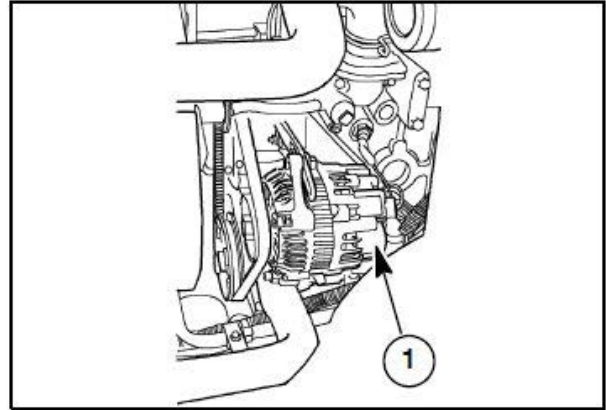

Figure 3-32
The tractor's 55-amp alternator (1) in Figure 3-32, is belt-driven from the engine crankshaft pulley. It is important that belt slippage does not occur, or the charging system will be adversely affected. To adjust the belt, see the instructions previously given under "Fan Belt" section (page 3-19).